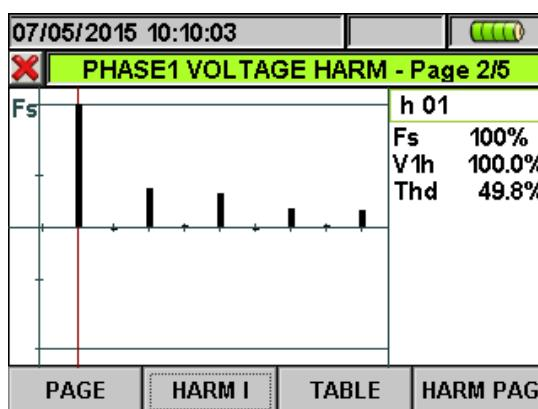
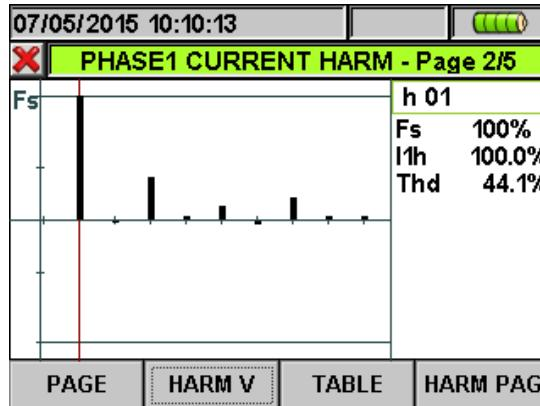

Fig. 36: Harmonic analysis voltage V1 in percentage values for 4-wire system
Fig. 37: Harmonic analysis of current I1 in percentage/absolute values for 4-wire system
- Harmonics values of single V1, V2, V3 voltages and neutral voltage Vn and single currents I1, I2, I3 and neutral current In (for three phase 4-wire system) with THD% values both with histogram graphics and with numerical values in percentage or absolute value depending on the desired settings. These values are shown in four pages selectable by pressing cyclically the **F1** key (or touch the “**PAGE**” at display). On Fig. 36 and Fig. 37 are display as an example, the situation relative to L1 phase for voltage and current on 4-wire systems is shown in the next pictures: